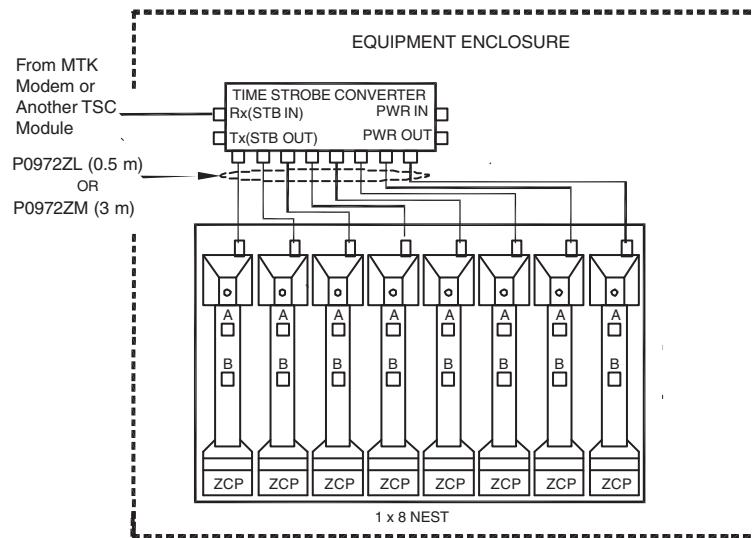

Figure 5-58. Non-redundant Time Strobe Cable Connections to the ZCP270
1. Using cable P0972ZL (0.5 m, 1.5 ft) or P0972ZM (3 m, 10 ft), connect a TSC output to the ZCP270 (see Figure 5-58). Any of the eight TSC outputs can be connected to any ZCP.